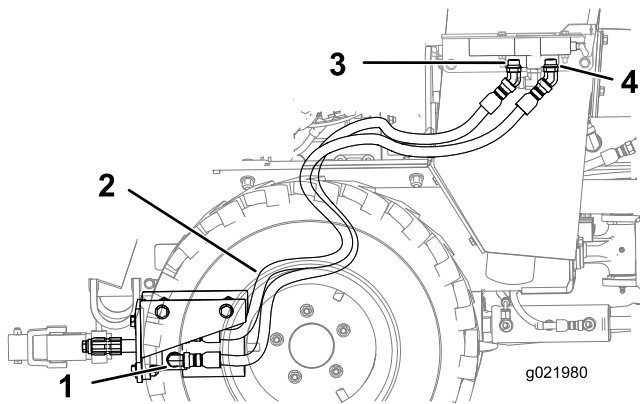

Figure 15
1. Route a 114.3 cm (45 inch) hose from port A on the motor to port A on the hydra-borer-control valve (Figure 15).
- Route the other 114.3 cm (45 inch) hose from port B on the motor to port B on the hydra-borer-control valve (Figure 14 and Figure 15).